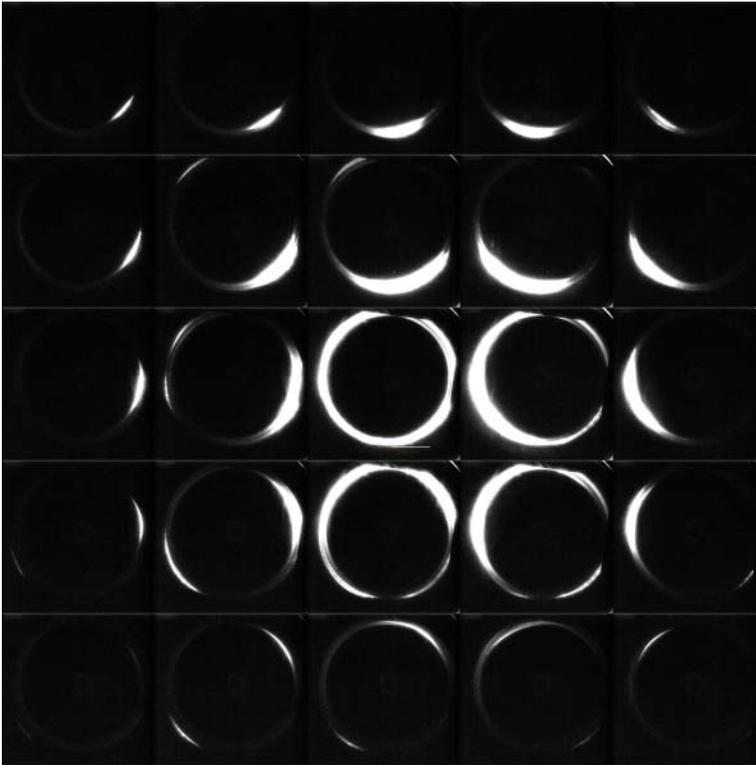

Figure 17: Mosaic of pinhole around aligned position. This image was recorded with a 35 micron pinhole and 20 micron steps.
- Finally, you can take a mosaic moving the pinhole around the aligned position (see Figure 17). The pattern should be nicely symmetrical, and the pinhole should cut off the ring evenly in all directions.